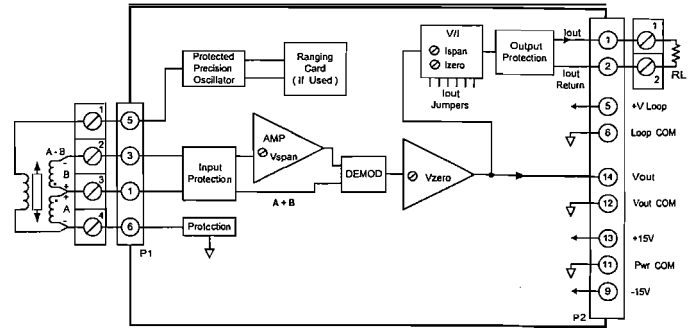

Figure 2.1.6.1 3B17 Functional Block Diagram
Figure 2.1.6.1 shows a block diagram for the 3B17. The ac excitation is provided on terminals 1 and 4. The amplitude and frequency of the ac excitation can be specified when ordered or can be configured externally with the AC1310 custom ranging card. Input protection of up to 130V is provided for the input and excitation circuitry. The signal is amplified to give the high level voltage output and automatically synchronously demodulated to correct for any phase shift errors from the primary to the secondaries of the LVDT, eliminating the need for a phase adjustment.
The 3B17 uses a unique approach to compensate for these errors. The two secondary windings are identified as A and B in Figure 2.1.6.1, with the normal output being A - B. The function A + B is a voltage that is in phase with the secondaries and nearly invariant with the core displacement. Since this term is much larger than the quadrature voltage, it can be used to drive the demodulator directly. The 3B17 generates the A + B term by manipulating the A and A - B outputs. This approach automatically compensates for any phase error between the primary and secondaries of the LVDT and eliminates the need for a phase adjustment. It also rejects any residual quadrature voltages automatically. The 3B17 is the complete solution for your LVDT needs.
1. Connect model 3B17 as shown in Figure 2.1.6.1 with  $R_L = 250\Omega$ , leaving the +EXC wire disconnected.